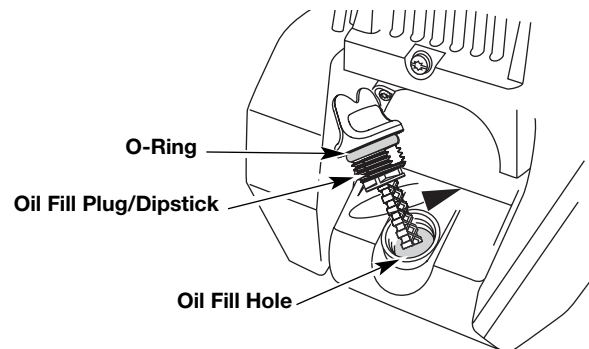

Fig. 25
6. If the level is low, add a small amount of oil to the oil fill hole and recheck (Fig. 25). Repeat this procedure until the oil level reaches the top of the dipstick.
**NOTE:** Make sure the O-ring is in place on the oil fill plug/dipstick when checking and changing the oil (Fig. 25).